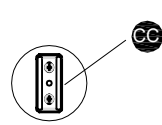

Fig. 2
2. Center mounting bracket **CC** vertically in the outline of post on towel ring **A**. Mark location of mounting screw **AA** holes. Drill the holes on the wall with 1/4-in. bit (Fig. 2).